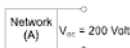

Fig. 1
9. With the help of given data in Fig. 1, 2 and 3, find